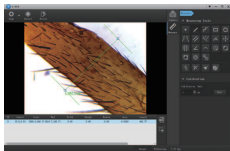

Figure 10
1. Software interface operation: After entering the "S-EYE" software interface, In the "Camera" mode, Snap /Record/Browse functions can be operated, and Resolution and Format/Exposure and Gain/White Balance/Color Adjust/Color Mode/Flip can be set individually (Figure 10)
2. In the "Measure" mode, Use the measuring tool to measure specimen Width/ Height /Radius/ Area /Length /Angle/Distance and other information (Figure 10)